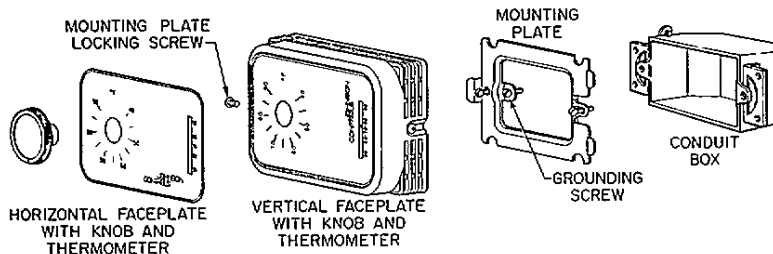

Fig. 2 — Line drawing illustrating method of mounting a vertical thermostat to a horizontal outlet box and installing a horizontal faceplate.
4. Remove the mounting plate, see Figs. 2 and 3, and fasten the plate to the outlet box with the screws provided in the mounting plate.
7. Tighten the mounting plate locking screw. (See Figs. 2 and 3.)